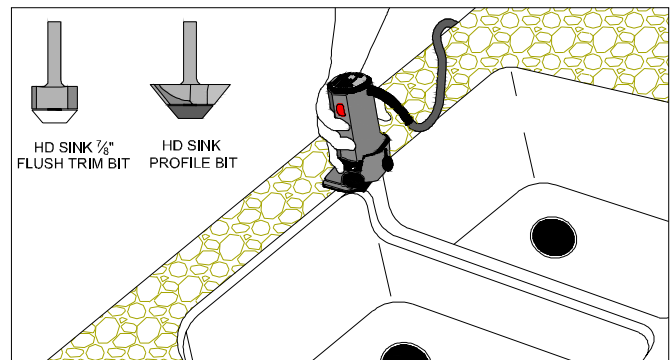

Figure 12C
- Use a laminate trim router with the HD bottom bearing flush trim bit and flush trim the overhanging laminate. (FIG. 12C)
- Use a laminate trim router with the HD sink profile bit, profile the edge of the laminate with the angle of the sink. (FIG. 12C)